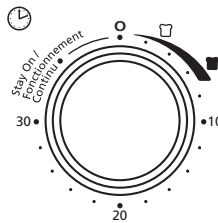

Figure 2
3. **Timer Selector Knob** – Allows to adjust the dial to the desired time for up to 30 minutes. Oven will automatically shut off when cooking is completed. (See Figure 2)